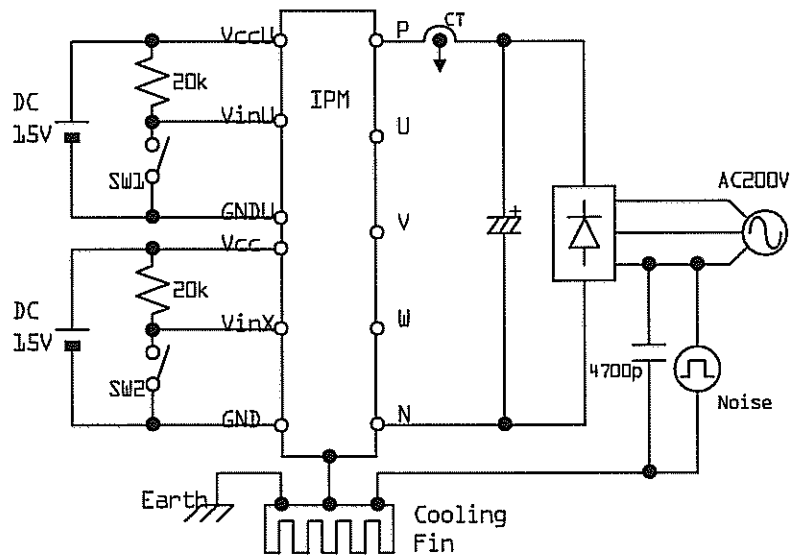

Figure 5. Noise Test Circuit
7. Noise Immunity ノイズ耐量 (Vdc=300V, Vcc=15V, Test Circuit Fig 5.)